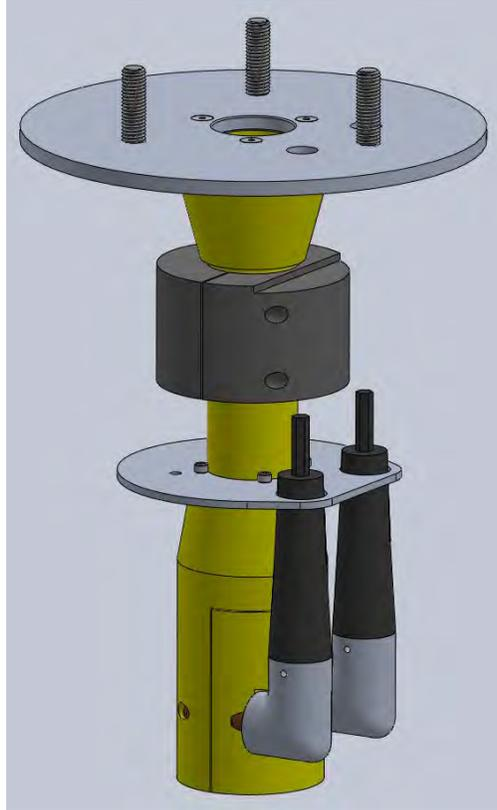
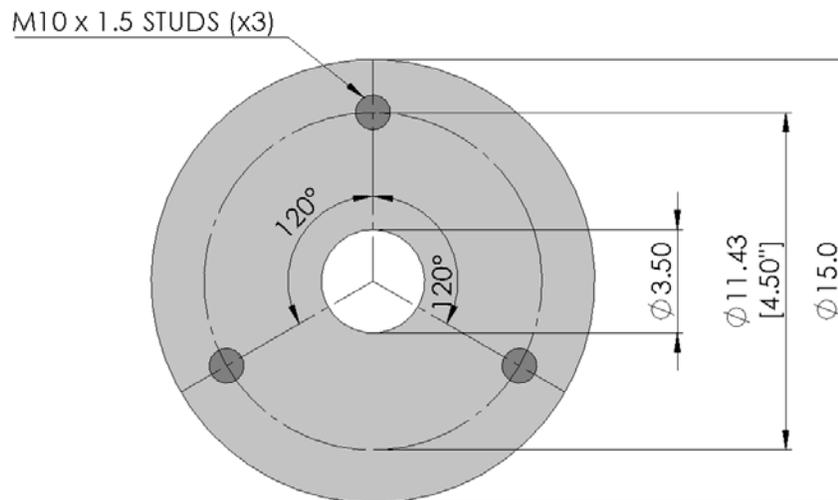

Figure 7. Organizer-provided transition piece (stub) between the student tubing and turbine. *Image created by Jason Roadman, NREL*
Figure 10. Base flange dimensions for wind turbine attachment to tunnel (dimensions in centimeters).
- The competition organizers will provide a “stub” or “transition piece” that will connect the top of the foundation structure to the place in the wind tunnel where the mounting plate was located in previous years. Figure 6a, Figure 7, and Figure 10 and show depictions of the stub and interface method for the student turbines. The bolt pattern of Figure 10 matches the small tunnels and previous competitions. The stub weighs 4.6 pounds.
- Three tunnels will be available in this year's competition: two small tunnels and the larger competition tunnel. The smaller tunnels will have the existing base plates as in previous years (see Figure 10). The student-provided foundation structure will not be used in the smaller practice tunnels. It is for this reason that a consistent mounting pattern is used between all three tunnels for the turbine baseplate.
- The turbine base plate must be constructed of material no thicker than 16.1 mm. It should be designed and constructed with adequate tolerances to smoothly fit over three studs, where it will be secured to the tunnel base flange/mounting stub with wingnuts. Figure 10 shows the bolt pattern and sizing of this flange and the dimension for the hole in this base flange to allow cables and connectors to pass through.